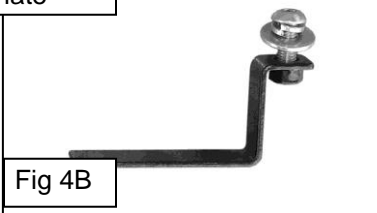

Fig 4B
06-08 Models: Select (1) 8mm Nut Plate, (**Figure 4B**). Insert the Nut Plate through the opening behind the grille on the driver side and line up the threaded hole with the hole in the metal tab and grille. Attach the **Tall Top Mounting Bracket** to the Nut Plate with (1) 8mm x 25mm Button Head Bolt, (1) 8mm Lock Washer and (1) 8mm Flat Washer, (**Figure 5**). Snug but do not tighten hardware at this time. Repeat this step for passenger side Top Bracket installation.
06-08 Models: (see Fig 4B-inset) Insert 8mm Nut Plate through opening behind grille and line up the threaded hole with the hole in the metal tab and grille (not pictured)